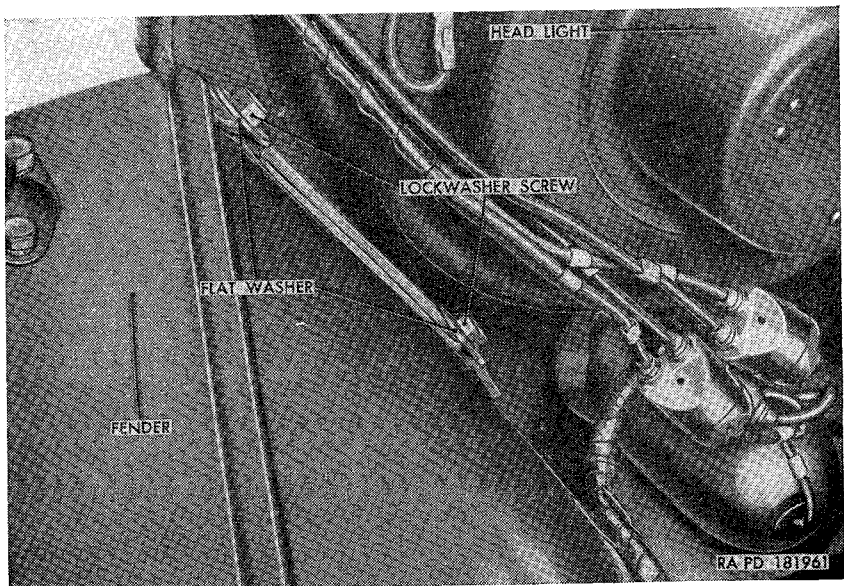

Figure 179. Front of left front fender secured to radiator guard.
- (6) Remove the two top lockwasher screws (fig. 179) securing the front of the fender to the radiator guard. Loosen the lockwasher screw at the bottom of the radiator guard to permit disengagement of the fender mounting slot.
- (6) Secure the front of the fender to the radiator guard with two $\frac{5}{16} \times \frac{7}{8}$ lockwasher screws (fig. 179) at the top. Tighten the $\frac{5}{16} \times \frac{7}{8}$ lockwasher screw at the bottom of the radiator guard.
- (3) Working on the engine side of the radiator guard with deflector assembly, loosen the four $\frac{5}{16} \times \frac{7}{8}$ lockwasher screws (two at each fender) securing the radiator guard to the left and right front fenders (fig. 179). Working beneath the fenders, loosen the $\frac{5}{16} \times \frac{7}{8}$ lockwasher screw securing each fender to the radiator guard.